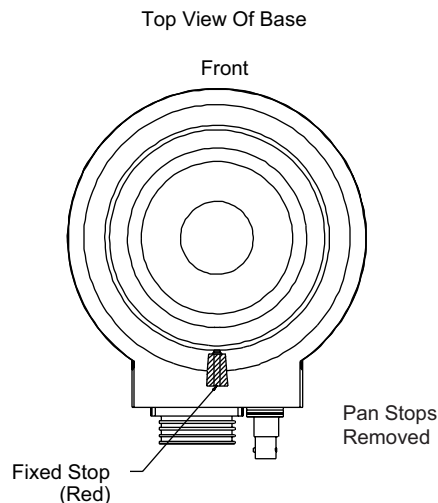

Figure 4: Maximum Manual Pan and Maximum Auto-Pan (345° Models)
The pan stops establish the limits for manual pan. The two (2) adjustable pan stops may be repositioned or removed depending on the desired operation. The maximum pan range setup is shown in Figure 4: Maximum Manual Pan and Maximum Auto-Pan (345° Models).